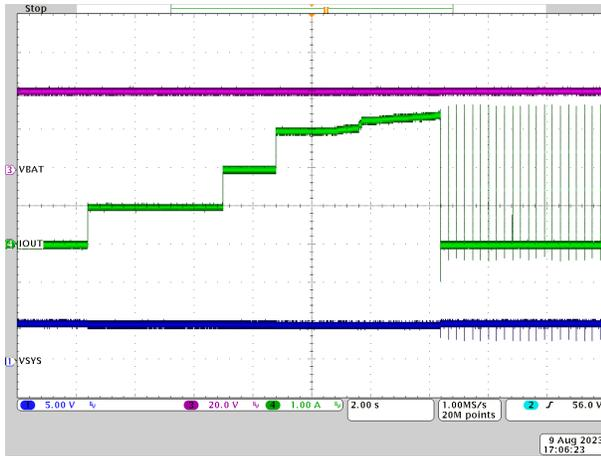
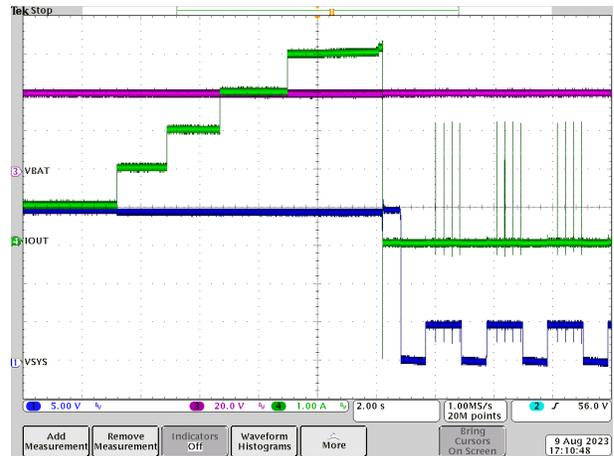

Figure 3-25. OTG Mode, 40Vbat, 5Vsys, OCP = 3.3A
Figure 3-28. OTG Mode, 40Vbat, 20Vsys OCP = 5.1A
Overcurrent protection was performed at the USB Type-C cable end and the test gradually increased the current of E-load at constant current (CC) mode for 5V, 9V, 15V, and 20V individually, see Figure 3-25 through Figure 3-28. At OTG mode, BQ25756 regulates the output with a CC and constant voltage (CV) profile, once the output current triggers the current limit, the output voltage drops and goes to auto restart if the voltage hits 80% of V_{SYS} .